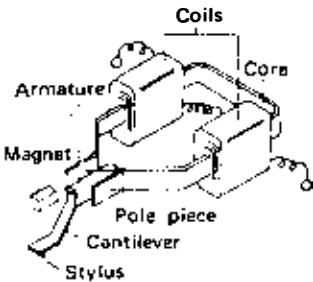

Fig. 2-12
Induced Magnet (IM) cartridges (Fig. 2-12) have fixed magnet and coil assemblies. Two minute iron plates move in the magnetic field, causing variations in the magnetic flux and, thereby, in the coils' induction voltage.